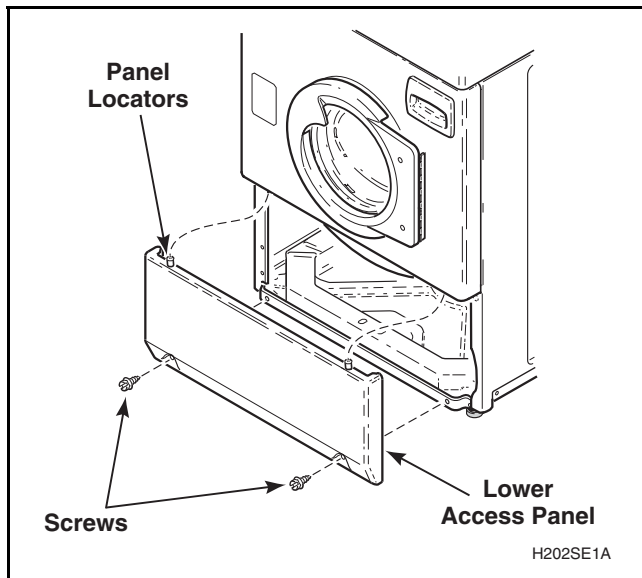

Figure 34
- (1) While supporting lower access panel, remove two screws from bottom edge of panel and remove panel. Refer to *Figure 34*.